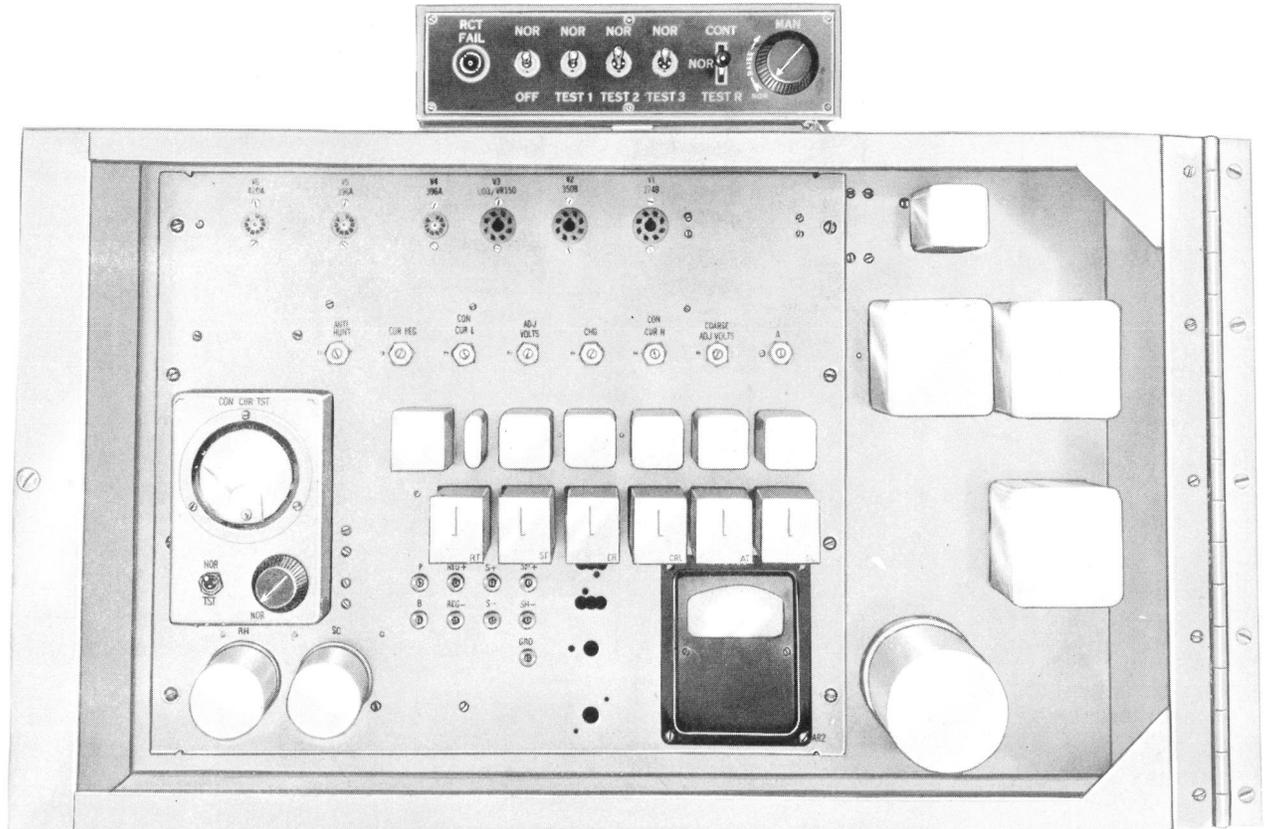

Fig. 1—J86249E L3 Electronic Control Panel
1.07 The instructions are based on drawing SD-81129-01, Fig. 1 and 4. For detailed description of the operation, see the corresponding circuit description.
3.01 The rectifier is completely automatic in the regulation of float voltage and should require no day-to-day routine adjustments. The rectifier should start and build up its output in less than one minute unless the associated plant causes a greater delay. It is started and stopped by the operation of the NOR-OFF key. If the load exceeds the safe capacity of the rectifier, the regulating circuit switches to constant current regulation. As the load diminishes, the rectifier brings the voltage to the float value and returns to voltage regulation. The voltage at which the rectifier will regulate is adjustable by two potentiometers, COARSE ADJ VOLTS and ADJ VOLTS. Higher voltage for charging the battery may be obtained, without disturbing the float voltage adjustment, by externally removing a short circuit from the CHG potentiometer. The amount of current in the regulating coils of the reactors is indicated on the SAT CURRENT ammeter. The output voltage and current of the rectifier will be indicated on the OUT VOLTS voltmeter and OUTPUT CURRENT ammeter relay. The CON CUR TST millivoltmeter monitors the load current with the (CON CUR) NOR-TST switch in the NOR position. See Fig. 1 and 2.
- (a) The NOR-OFF key is in the OFF position (see Fig. 1 or 2).